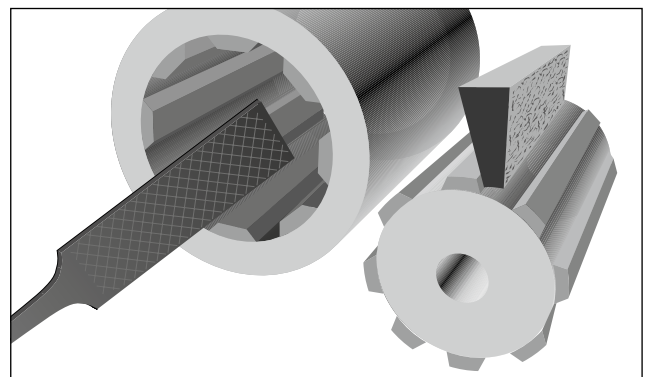

Figure 25. File socket to 45° angle.
1. **REMOVE SPLINE:** Remove spline shaft from the socket and chamfer the edges of the sockets to a 45° angle using a file. (See *Figure 25*)